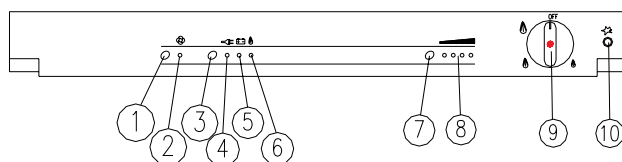

Fig. 3
#### Mains Power (Fig.3)
#### Gas power (Fig.3)
### GAS OPERATION (Fig.3)
The refrigerator should be defrosted each time that there is more than 3 mm of ice. This operation is necessary to guarantee the correct functioning of the refrigerator and to avoid higher levels of energy consumption. For full defrosting, press the power switch (Fig.3), switch off the refrigerator and shut off the gas cock "Q" (Fig.3). Keep the refrigerator door open to speed up the defrosting time. Do not use sharp, pointed tools or knives to remove the ice, as these could damage the appliance. When the refrigerator has been defrosted, switch it on again.
- Position the switches “1””2” and “6” to the “O” position and set the GAS knob “9” to the OFF position (Fig.3).